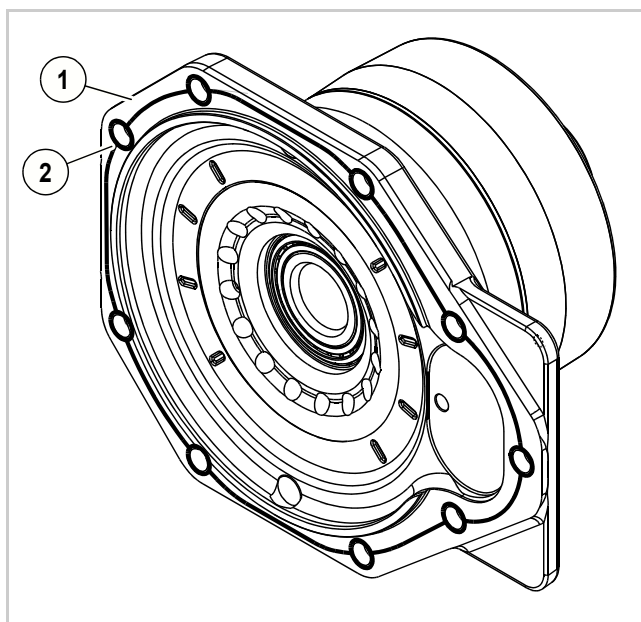

Fig. 26 (26497)
4. See Figure 26. Apply the flange sealant (061004-030) in a continuous flow around the bolt holes on the mounting surface of the drive unit sub-assembly.